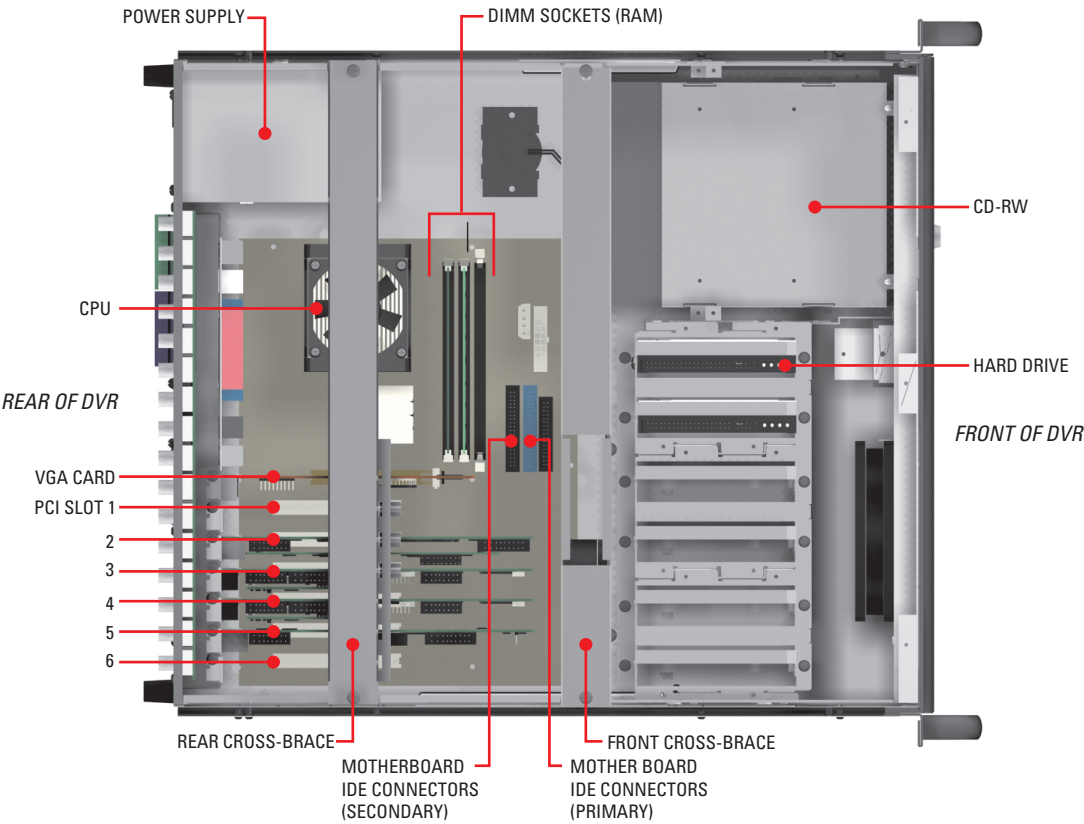

Figure 6. DX8000 Interior
- c. Carefully remove the chassis cover by sliding it back and up. Set aside the cover. Figure 6 illustrates the interior of the DX8000.
Figure 6 shows the location of your DX8000 Series DVR's major components. Certain cables and components have been omitted from the illustrations in this manual for the purpose of clarity.